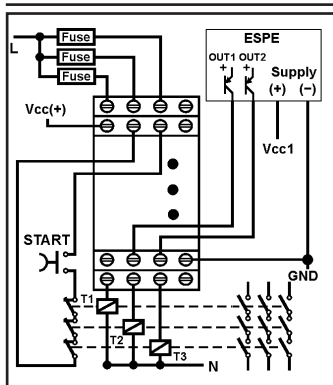

Fig. 3: ESPE: 2 uscite PNP a 1 filo /
- nal and the other to the S22 terminal, leaving S12 and S21 terminals not connected (fig. 3, 4 max. Safety cat. 4).
In Fig. 3 and 4 are shown the connections of ESPE with 2 one-wire outputs: the ESPE outputs are connected to S11 and S22.